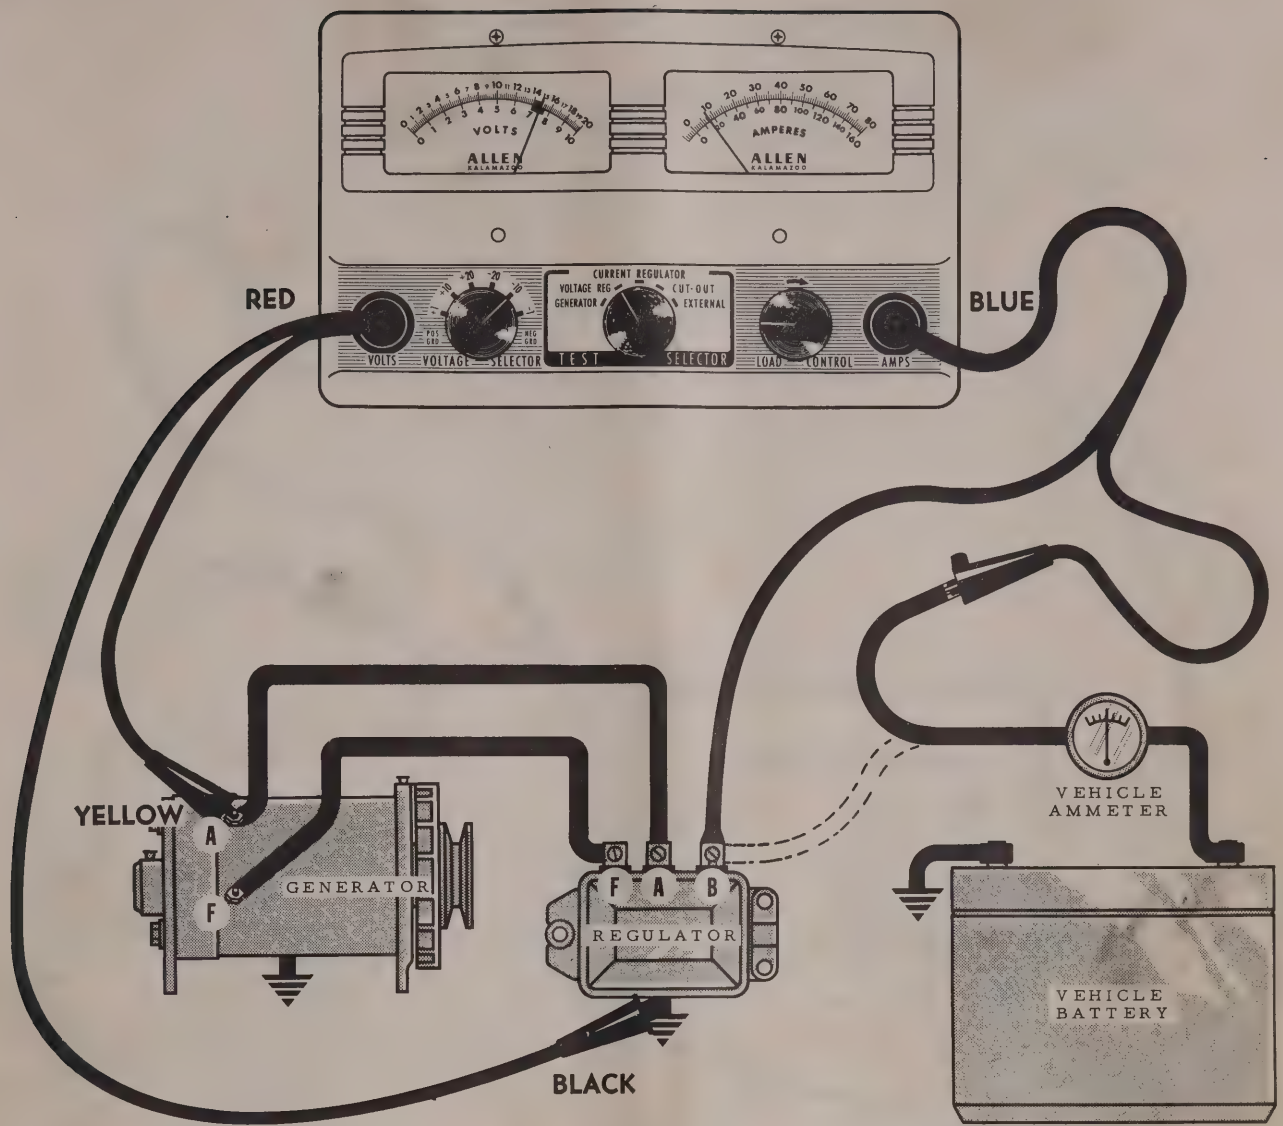

FIG. 7
2. Make connections as shown, Figure 7, and have lights and accessories "OFF".